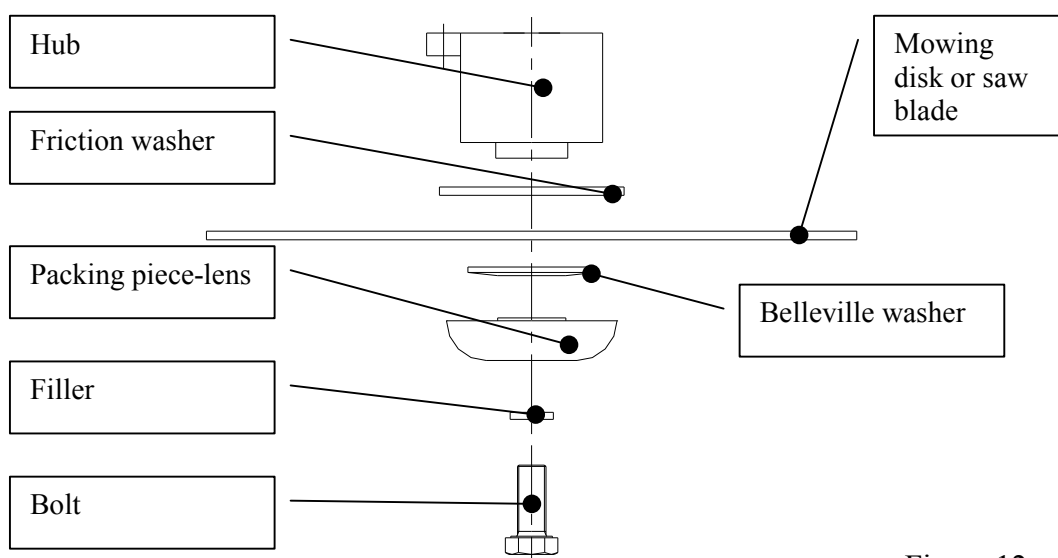

Figure 12
2. Insert the steel hub, friction washer, mowing disk or saw blade and fillers according to Figure 12.